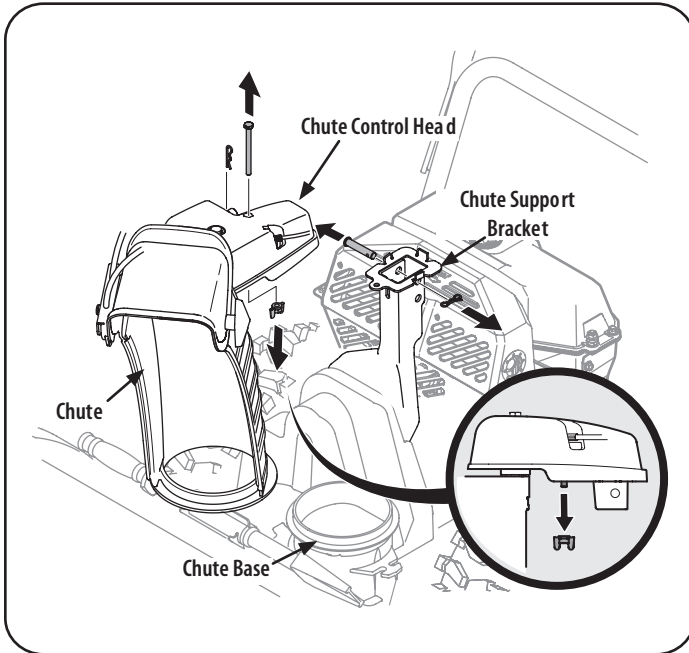

Figure 4
2. Remove cotter pin, wing nut, and hex screw from chute control head and clevis pin and bow-tie cotter pin from chute support bracket. See Figure 4.